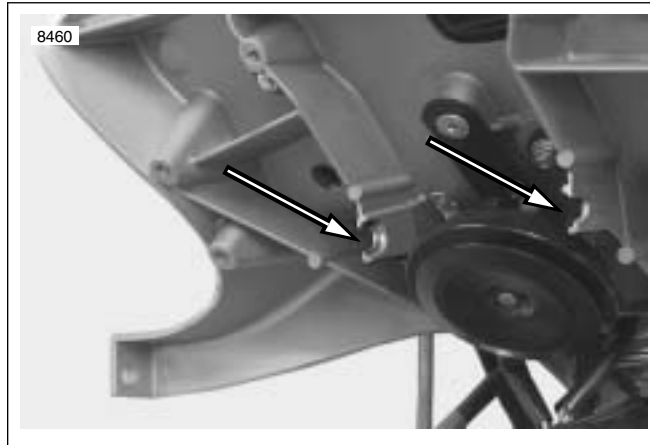

Figure 2-105. Headlamp Pivot Groove
1. See Figure 2-105. Position headlight pivot fasteners into groove of the headlight support bracket, flat side of nut lined up with groove.